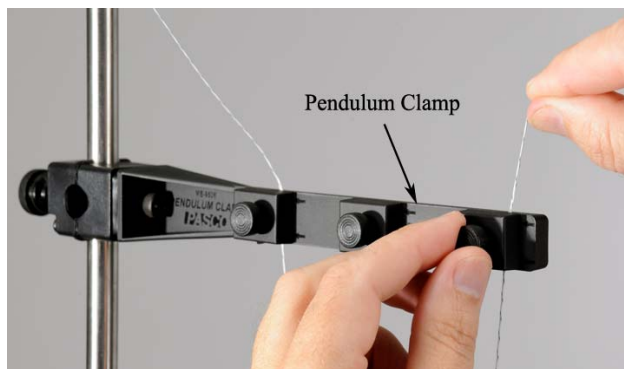

Figure 3: Hanging the Pendulum
1. Attach the 90 cm Rod to the Rod Base and attach the Pendulum Clamp to the rod near the top. Attach a piece of string about 2 meters long to the Pendulum Clamp as shown in Figure 3. Run the string through the hole in the brass cylinder and put the ends of the string on the inner and outer clips of the clamp, so the string forms a 'V' shape as it hangs.